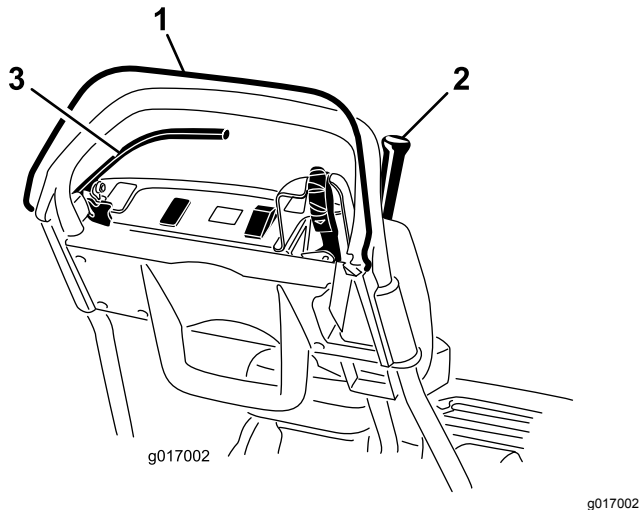

Figure 34
2. With the OPC released, attempt to engage the traction lever (Figure 34). The traction lever should not engage. If the traction lever engages, the interlock system needs service. Correct the problem before operating.
3. With the OPC pressed and the traction lever engaged, release the OPC (Figure 34). The traction lever should disengage. If the traction lever does not disengage, the interlock system needs service. Correct the problem before operating.
release the OPC (Figure 34). The traction lever should disengage. If the traction lever does not disengage, the interlock system needs service. Correct the problem before operating; refer to Servicing the Traction Interlock Switch (page 37).